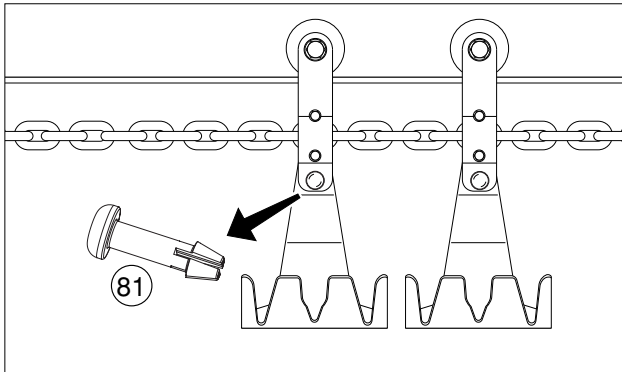

fig.26.2 Installing chilling-line shackle
1. Install the shackle with plastic pin **81**. Secure the pin by carefully hitting the pin with a plastic hammer. See figure 26.2.